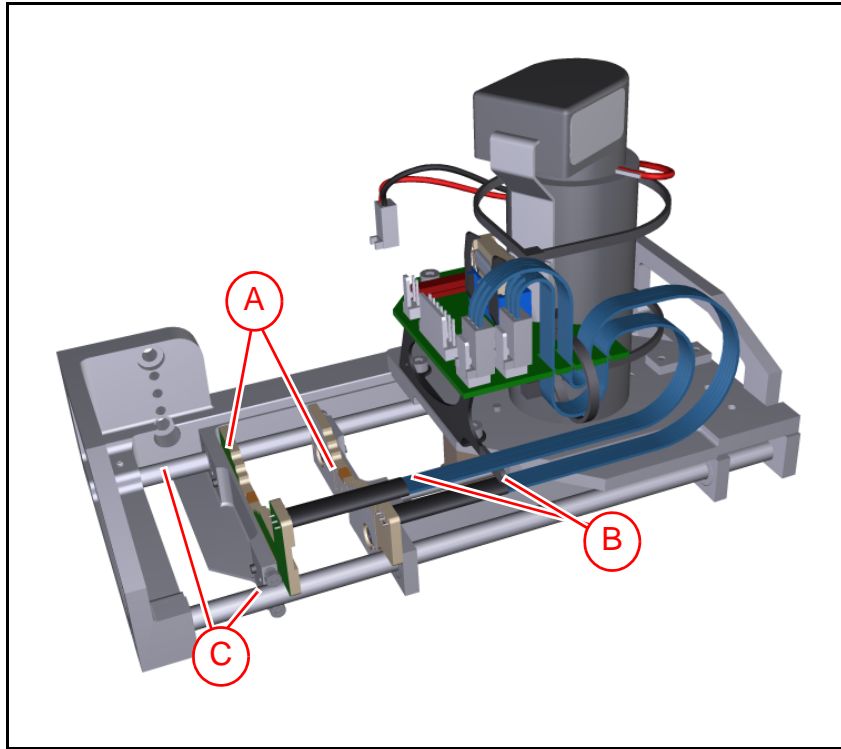

Figure 16-9. Centering unit electrodes and axles.
1. Using a Q-tip slightly wet in alcohol, clean the centering jaws ('A' in Figure 16-9).